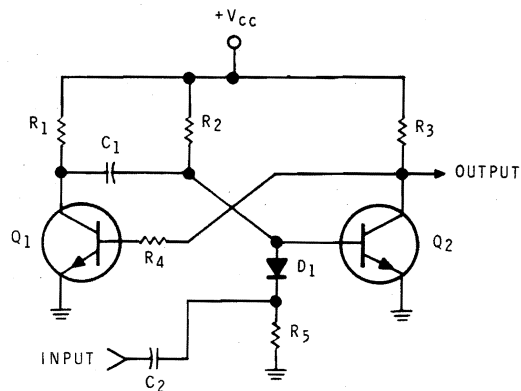

Figure 6-81
10. Refer to the circuit shown in Figure 6-81. The width of the output pulse is determined by: